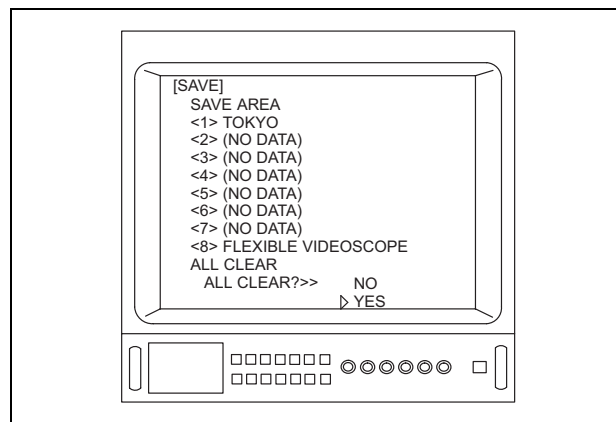

Figure 5.78
8. Depress the menu switches "◀" or "▶", or the "↑/↓/←/→" key on the keyboard to choose "YES" (see Figure 5.78).